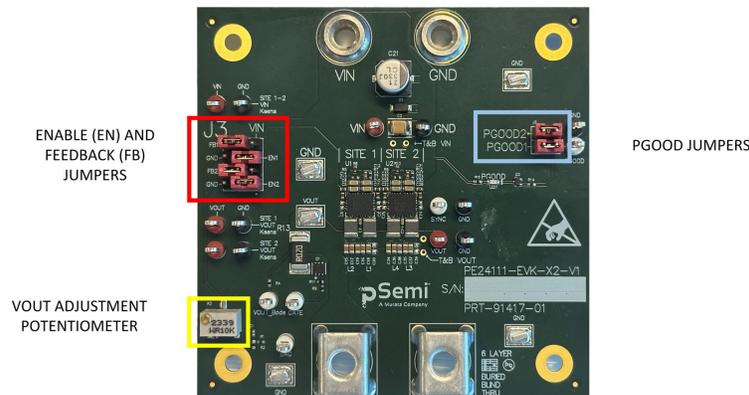

Figure 3. Enable and feedback jumper position, VOUT potentiometer
The provided jumpers connect the enable (EN) pins to either VIN or GND to enable or disable each device. Normal operation requires the EN jumpers to be in place and connected to VIN for the given board configuration. There are also jumper positions for the feedback (FB) pins of each device, which allow connection to VIN or to the other device’s FB pins (common FB). Normal operation requires the common FB pin configuration. Figure 3 shows the x2 board with one jumper in place for the EN pin and FB pin of each device. For the x1 configuration, you only need to install the EN1, FB1, and PGOOD1 jumpers.
You can adjust the output voltage by varying potentiometer R3, as shown in Figure 3. Adjusting the potentiometer clockwise decreases VOUT. Although the potentiometer allows for a wider VOUT range, limit the VOUT range from 0.35–0.70V maximum.